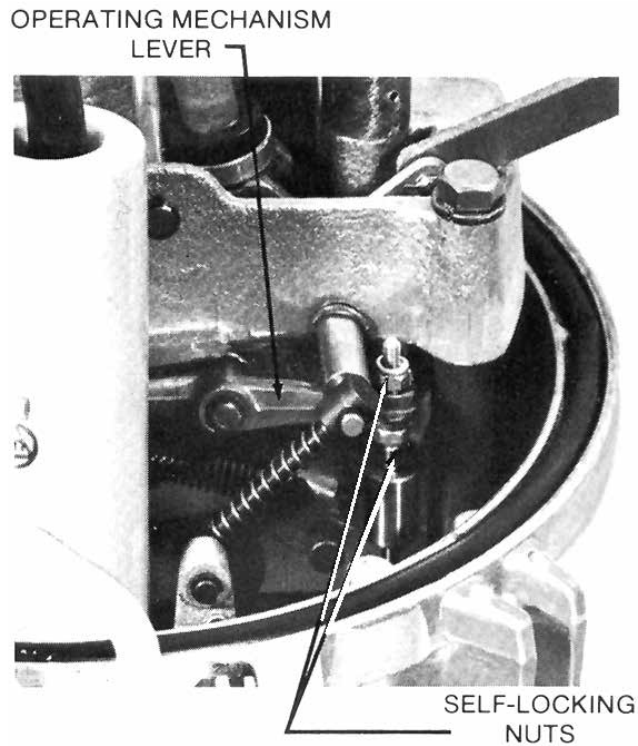

Figure 56. Adjustable lockout lever setting
- D. If tripping does not occur as described in Step C, adjust self-locking nuts shown in Figure 56 to achieve correct operation. Note that the mechanism cannot operate properly if the nuts are tight against the operating mechanism lever. Always back off either nut one-half turn before testing.